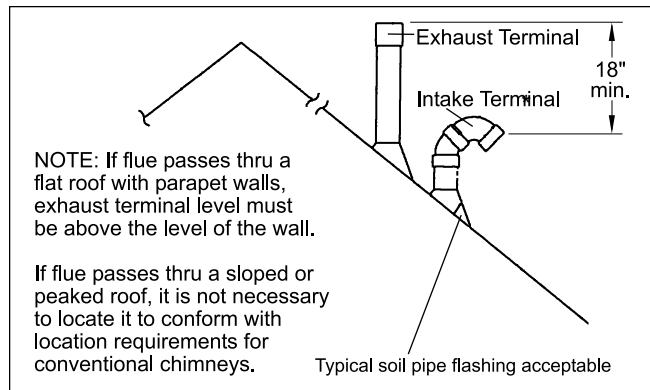

Figure 4. Alternate vent terminal installations.
- Install drip leg and ground joint union (Figure 4).